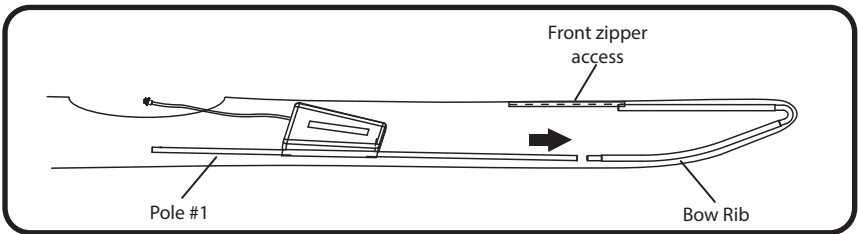

Figure 5
- 5) Install pole #1 into the front end of the kayak connecting it with the bottom portion of the Bow Rib. The pole should be placed on top of the foam floor and the numbered end of the pole should be at the cockpit of the kayak. See Figure 5.